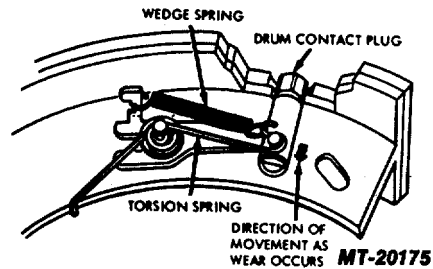

Fig. 6
5. Hook one end of wedge (coil) spring on the U-hook, then install coil of torsion spring over the pivot pin and pull free spring hook over the edge of the shoe web. Hook free end of wedge spring over finger on wedge (Fig. 6).